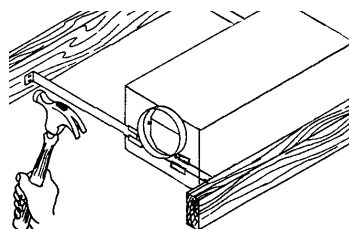

FIGURE 4
- Insert mounting brackets into the slots on housing, with angles pointing away from housing. Position housing into ceiling location. Housing should extend 3/8" for drywall or 3/4" for standard sheetrock and plaster below joist. Pull mounting brackets against ceiling joists and fasten securely. (Fig. 4)